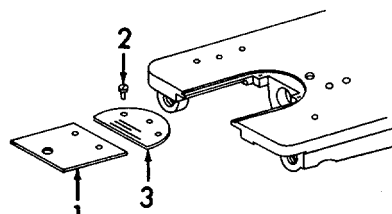

Figure 6-45. Slide and Throat Plates, Removal.
a. Removal (Refer to Figures 6-45 through 6-49).
- (1) Refer to Figure 6-45. Remove slide cover (1) by sliding the cover (1) off the bed.
- (2) Remove two screws (2).
- (3) Remove throat plate cover (3).